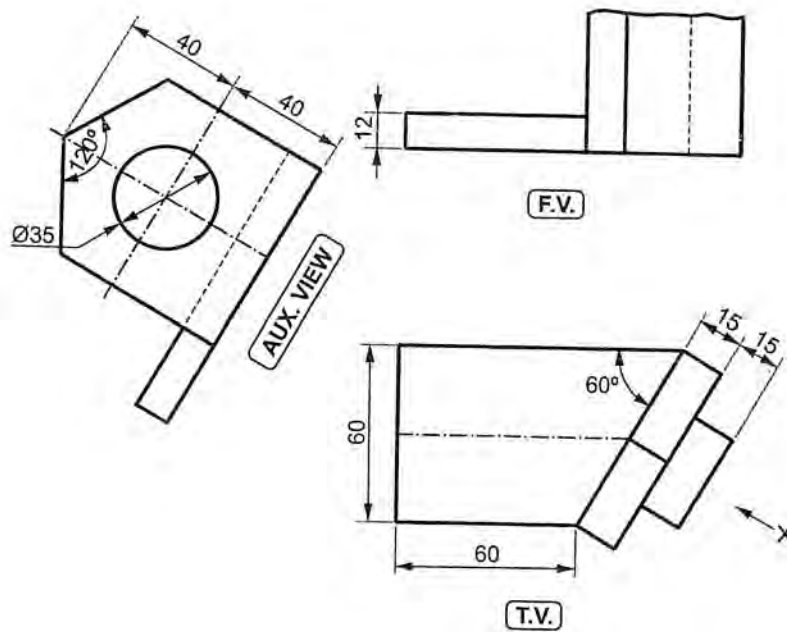

Fig. 4
6. Fig. 4 shows incomplete elevation and auxiliary views. Draw the following :